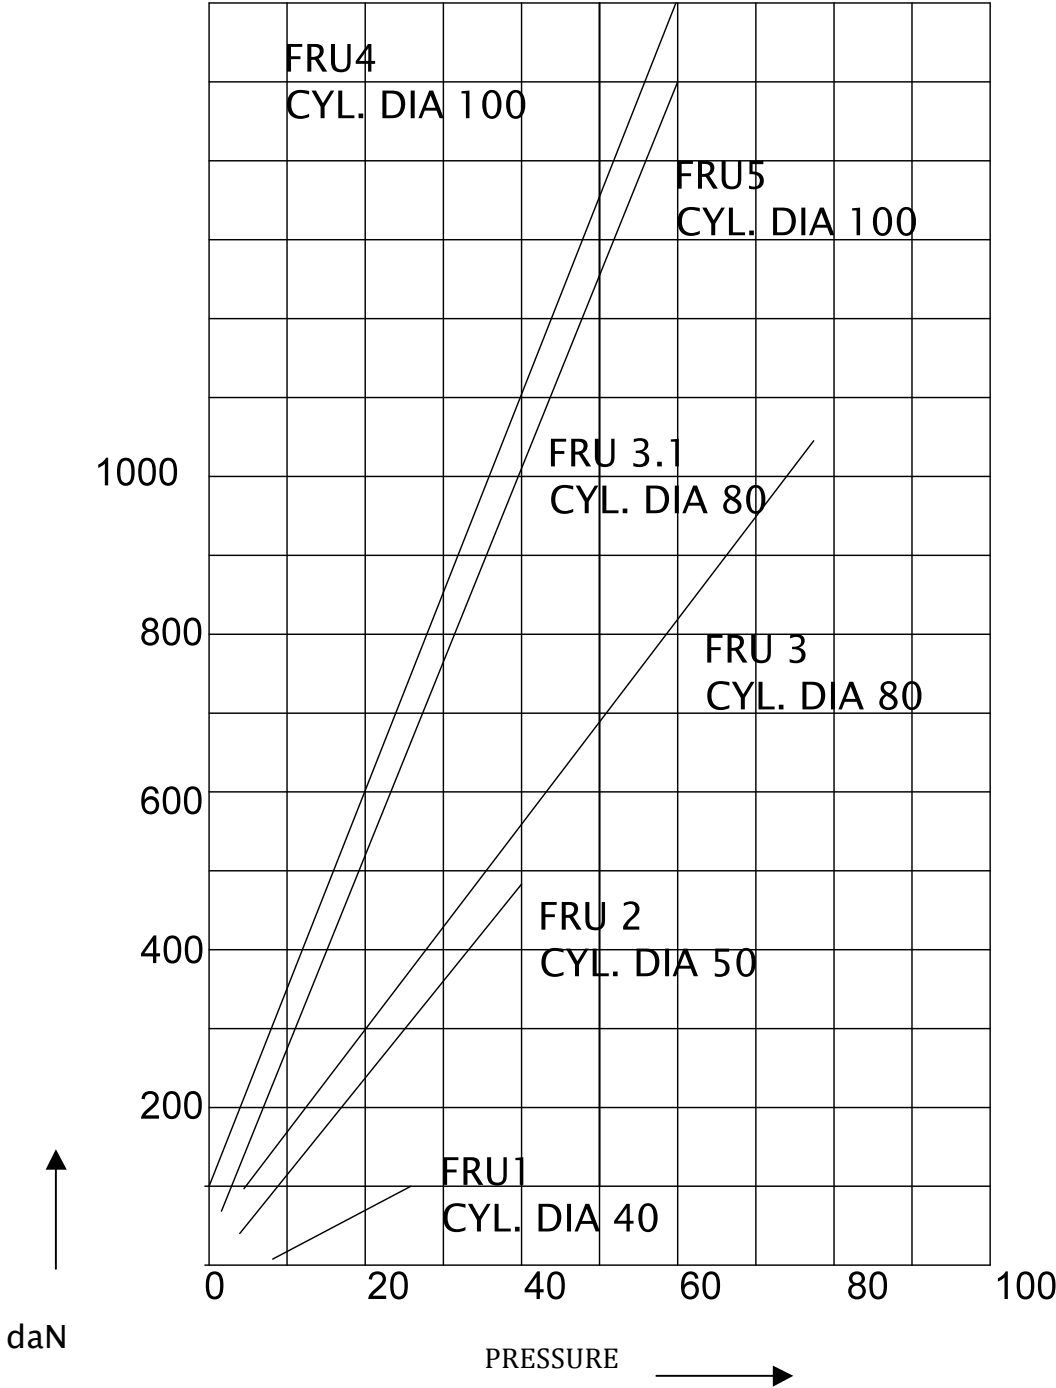

Fig. 7 Clamping Force Graph for KEL Steady Rests.
- Fig. 7 gives the clamping forces acting on the work piece for various actuation pressures for the full range of KEL self centering Steady Rests. The required pressure is determined by the piston area of the Steady, the service life of the rollers, the size and weight of the workpiece as well as its length/diameter ratio. During the machining operation the workpiece must be sufficiently firm. High in feed forces will roll the running contact of the Steady Rest in.